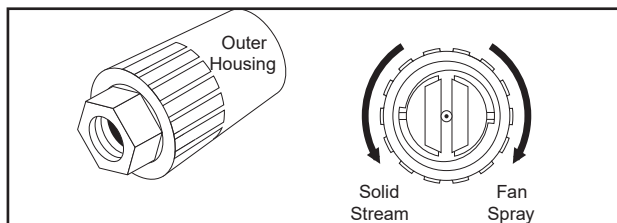

Figure 9 - Pressure Hose
- Adjust the width of the pressure nozzle spray pattern to meet your cleaning needs. Adjustment is made by rotating the outer housing of the pressure nozzle, (refer to **Figure 9**). The spray pattern can be adjusted from 0 degrees solid stream to 80° fan spray. Release the trigger of the trigger gun prior to making any spray pattern adjustments.